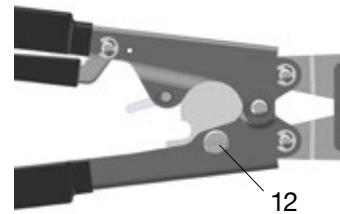

Fig. 12: Eccentric Stud
3. Using a straight blade screwdriver, rotate eccentric stud (Fig. 12) counter-clockwise until jaws contact the GO/NO-GO Gauge before the NO-GO area of the Gauge.